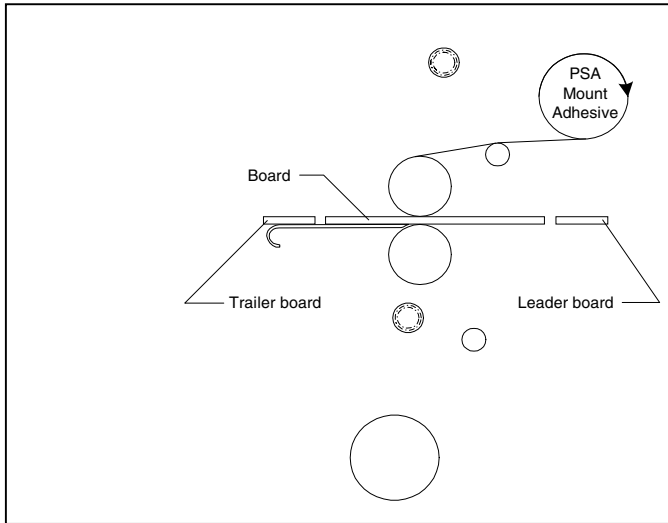

Fig. 29
TIPS FOR PRE COATING BOARDS (Figure 29)
1. Load the laminator as illustrated in Figure 29.